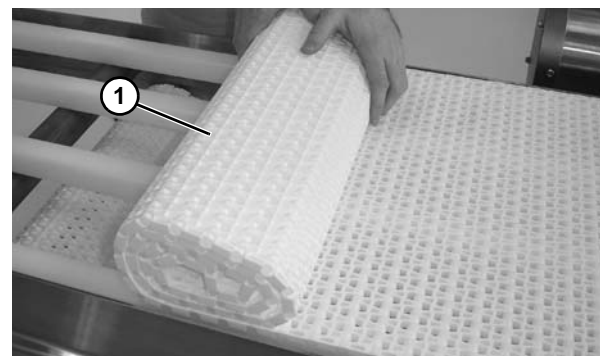

Figure 31
3. Remove belt (**Figure 31, item 1**) and place in COP tank.